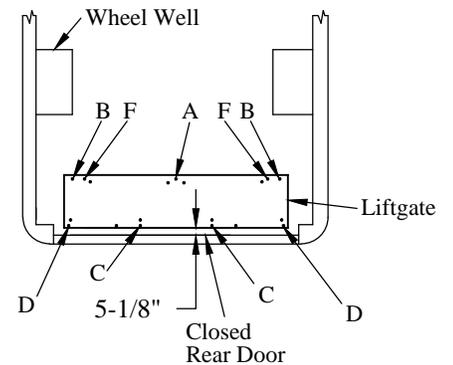

Figure 9: Drilling location (top view).
- 5-1/8" from the the closed rear doors at the center (Figure 9).